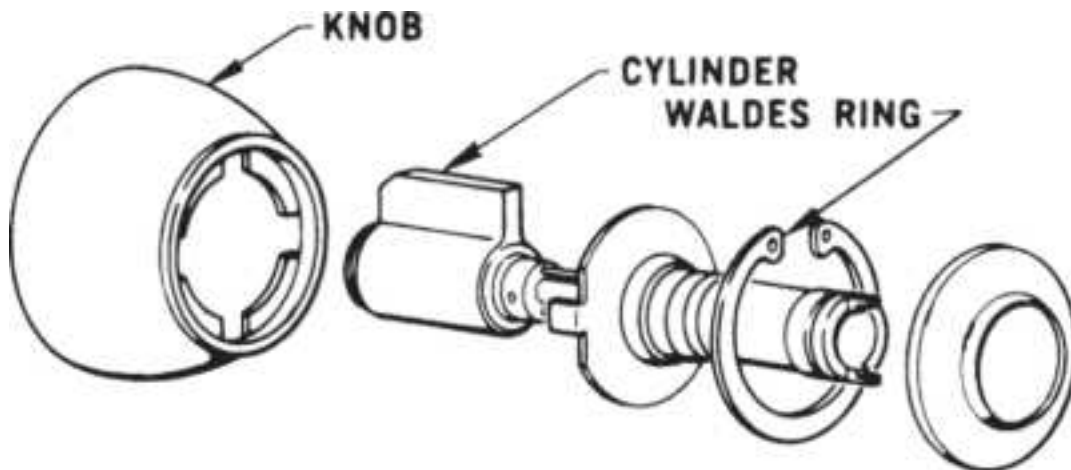

**Figure 13.12** Removing cylinder.
5. Using a special Waldes No. 3 ring pliers, remove the large Waldes ring from the groove and withdraw the shank and cylinder (Fig. 13.12 ).